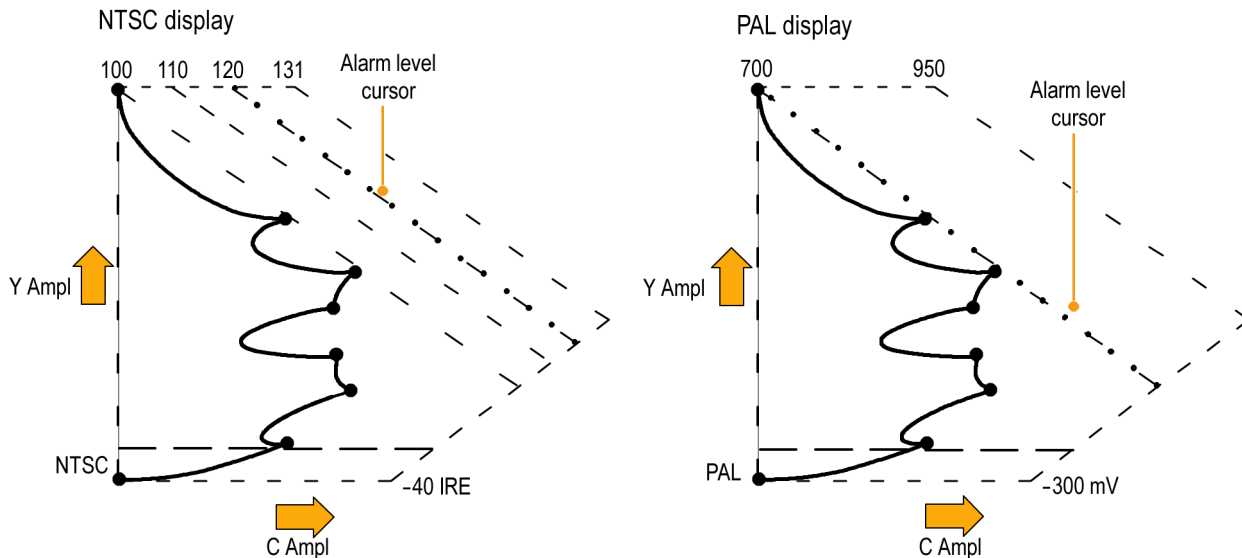

Figure 74: Arrowhead gamut display plots
The Arrowhead gamut display plots luminance (Y) against chrominance (C) to check if the composite signal adheres to standard gamut. NTSC and PAL Arrowhead displays (75% Color bars) and indicates the values of the graticule lines. The arrowhead shape of the graticule results from overlaying the standard limits for luminance and luminance-plus-peak chrominance. (See Figure 74.)